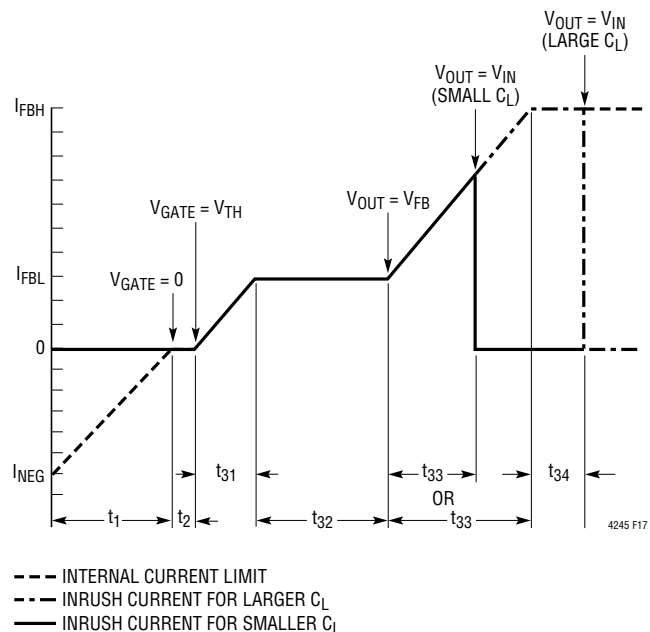

Figure 17. Inrush Current Profile for Design Example
3. To determine the TIMER capacitance, the time required to completely power-up all supply outputs simultaneously needs to be calculated. There are three parts to this time: time for the internal current limit to cross zero (t_1), time for the gate to slew to the MOSFET threshold voltage (t_2) and the time for the current flow to charge up the load capacitors (t_3) (see Figure 17).
t_3 : Under simultaneous power-up each output voltage affects the inrush current profile. To simplify calculations, the inrush current profile shown in Figure 17 is chosen. All the current is assumed to charge the load capacitor, i.e., there is no load current. There are four parts to t_3 as shown. Equations 8 to 11 are used to determine t_{31} to t_{34} :